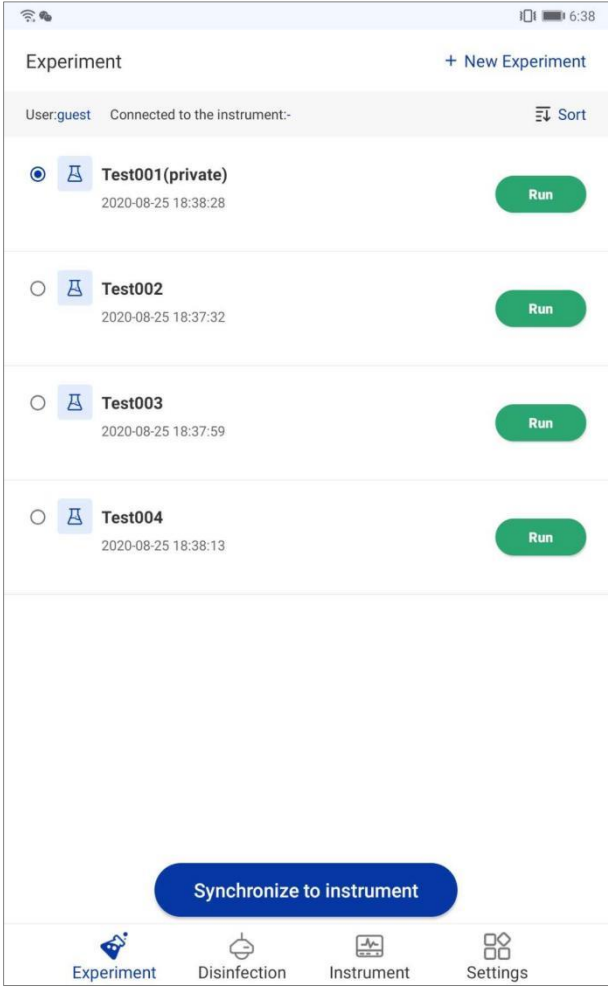

Figure 5-4. Experiment Interface - Synchronize to Instrument
- 1. New Experiment:** click < + *New Experiment* > in the upper right corner of the experiment interface, the New experiment interface will pop up automatically, as shown in figure 5-4.
- 3. Synchronize to instrument:** long-press any experiment on the experiment interface and click < *Synchronize to instrument* > to synchronize the current experiment from the application software to the instrument system, as shown in figure 5-4.
- 1) Click < **+ New Experiment** > in the upper right corner of the experiment interface, the New experiment interface will pop up automatically, as shown in figure 5-4. For detail operation instructions, please refer to 5.2.1 Experiment Interface – New Experiment.